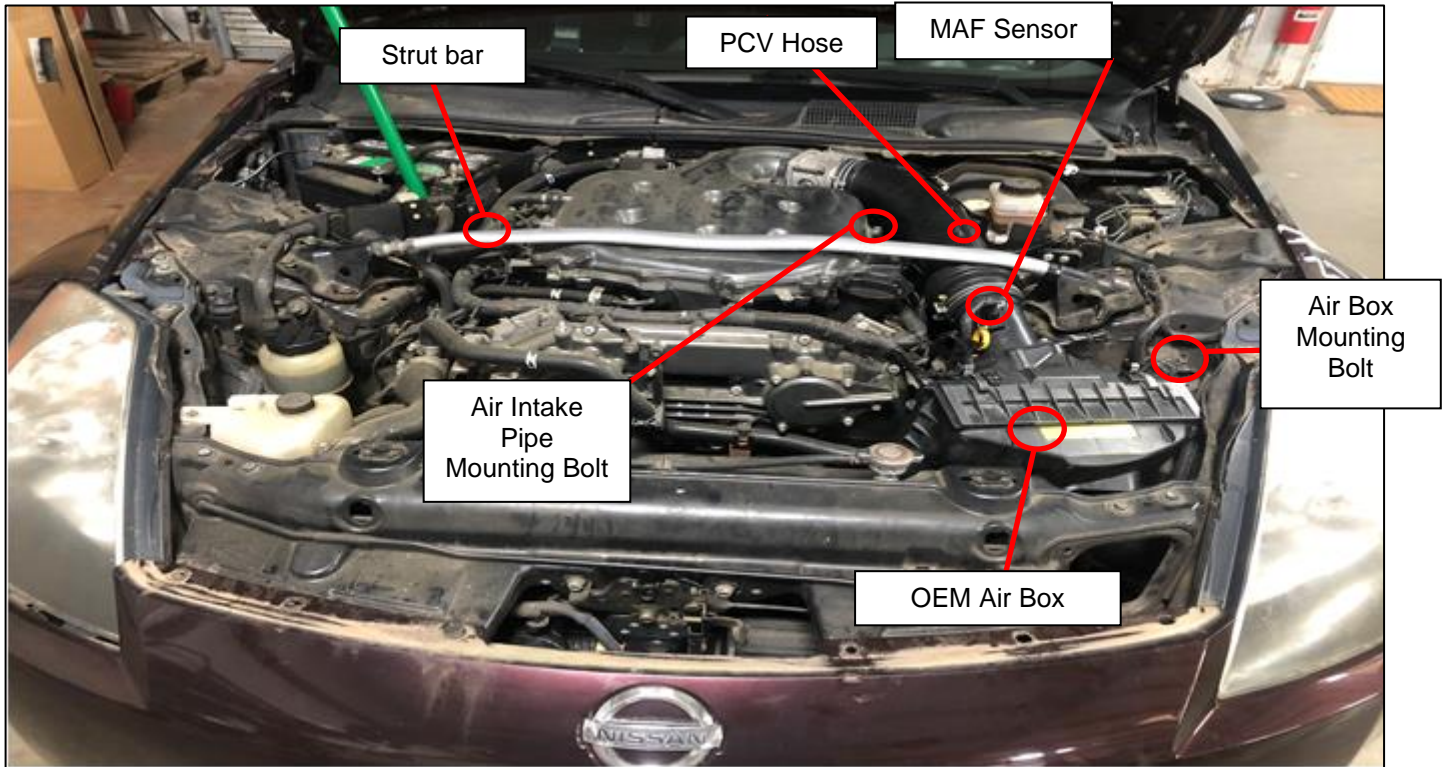

Figure 1
NOTE: Use *Figure 1* below as a reference for Steps 3-8.
5. Remove the Air Box Mounting Bolt. *Figure 1.*
6. Remove the Air Intake Mounting Bolt. *Figure 1.*